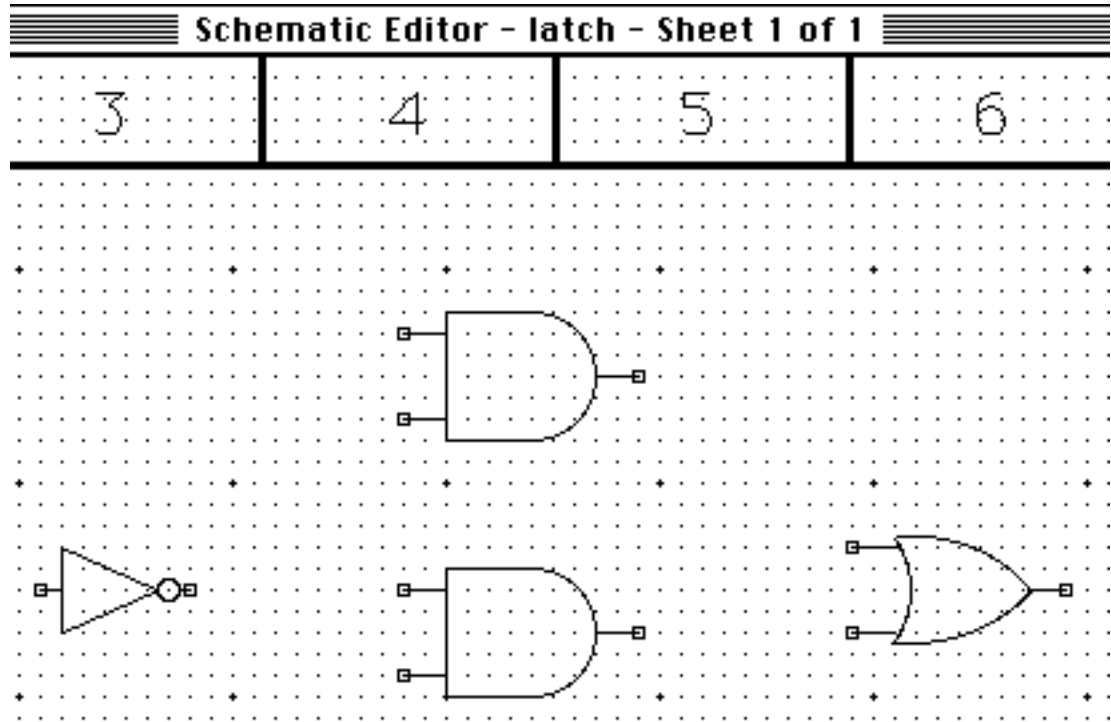

Figure 3-16 Symbol Placement in Latch Schematic
7. Place the second AND symbol directly above the first, leaving about one-half inch between them. The drawing should contain four symbols arranged as shown in Figure 3-16.